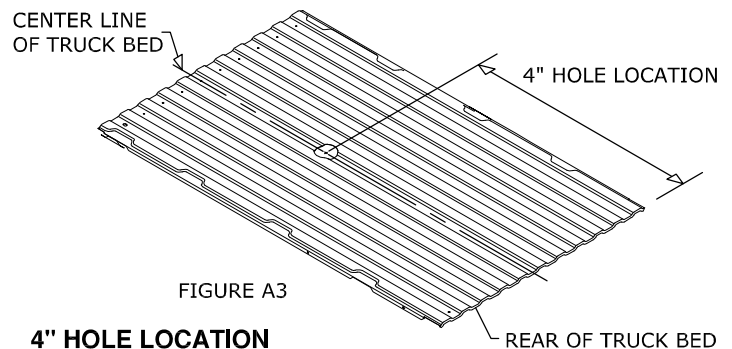

FIGURE A3
7. **Mark the 4" hole location.** Using a tape measure hooked over the rear edge of the bed (at tailgate end), measure the location for the hole as shown in figure A3. Next, locate the center of the bed by measuring the distance between the wheel wells and dividing by two. The center of the hole will be at the intersection of the center of the bed and the first distance measured